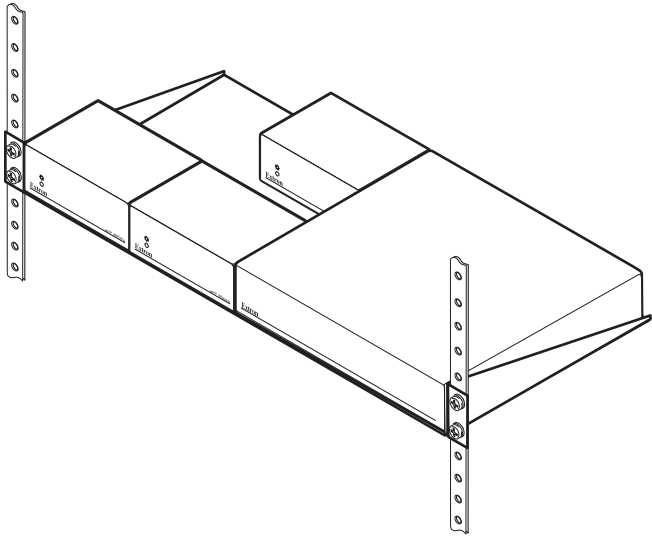

Figure 2 — Mounting the MTP on a standard shelf
- RSU 129 - 1U 9.5 inch Deep Universal Rack Shelf Kit (part number 60-190-01, see figure 2 on page 7)
5. Secure the shelf to the rack using the supplied machine screws (see figure 2).